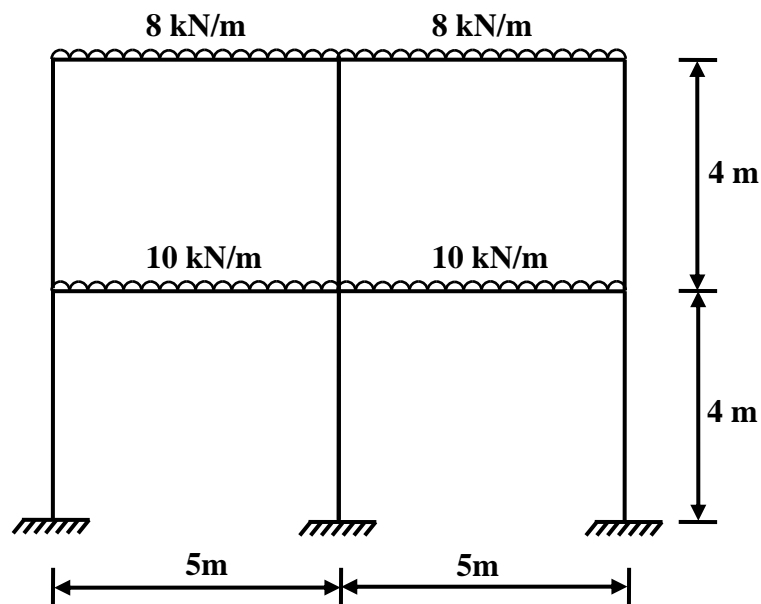

Fig. 1
1. Analyze the rigid jointed plane frames shown in fig.1 by approximate method. Draw approximate bending moment diagram. All the members have same axial rigidity and flexural rigidity.